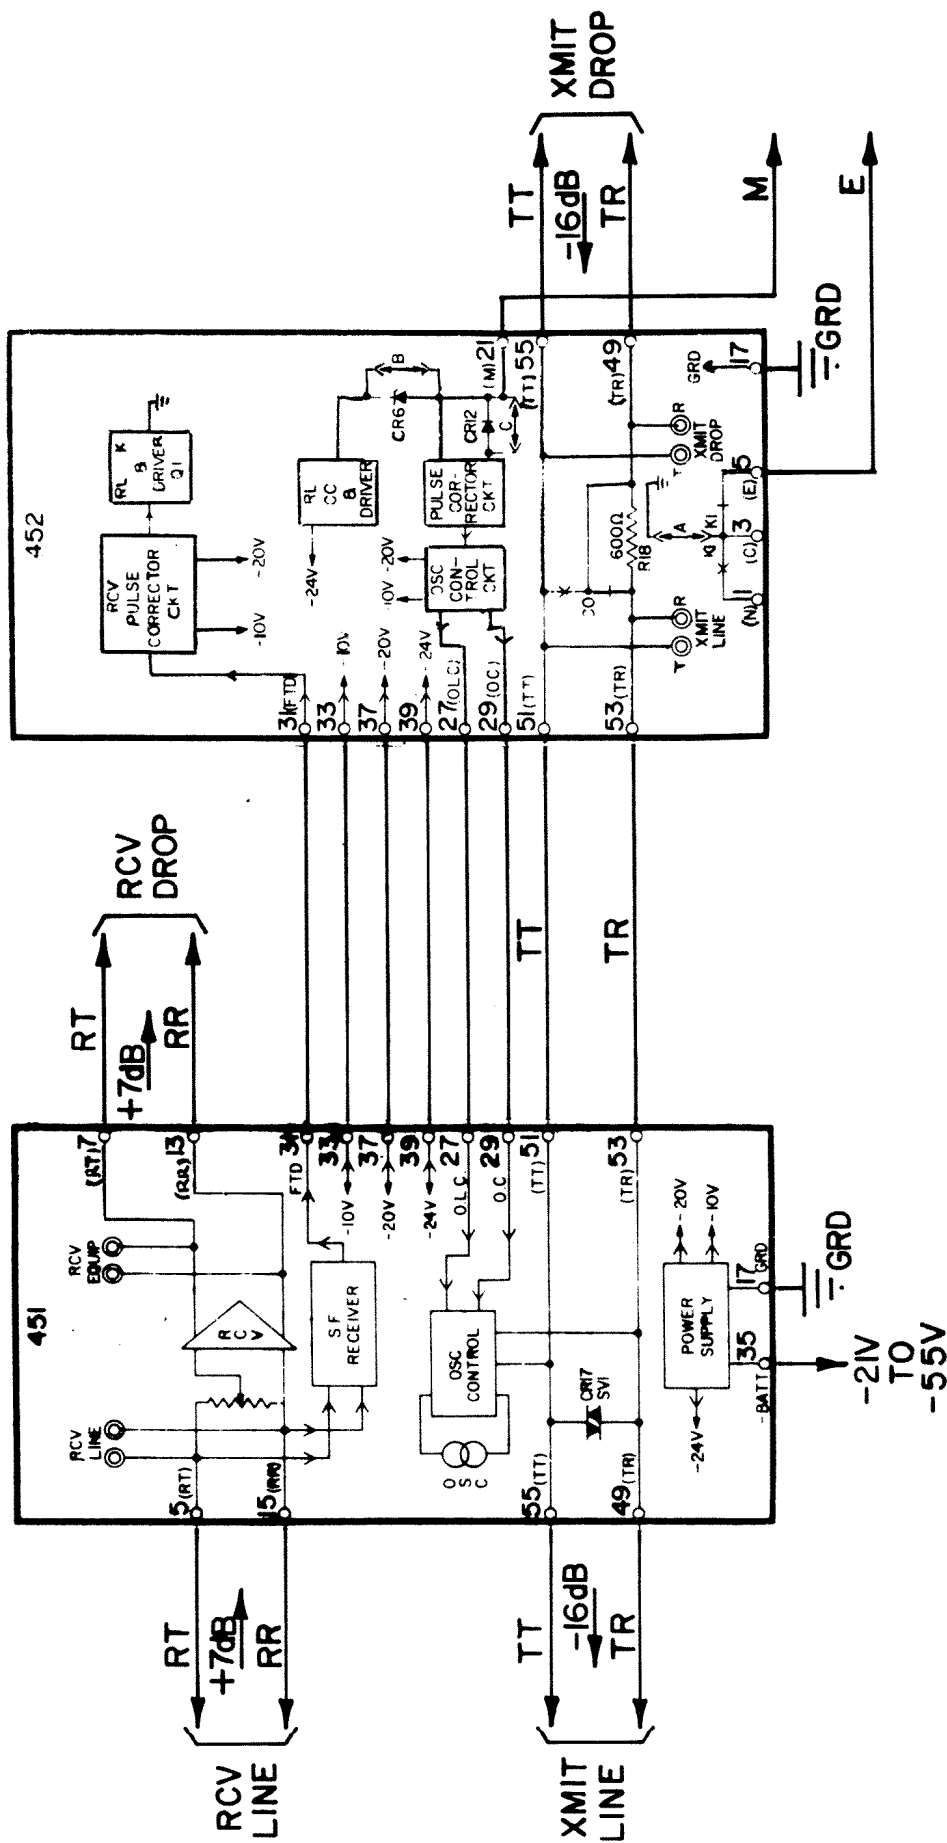

Figure 3. 452-FWA Line-Up Diagram
6.01 The alignment procedure for the 452-FWA E and M Inband Signaling System consists of injecting tone into the transmit channel to adjust the transmit levels of the associated equipment and verify the operation of the 452 cut and terminate relay. Test tone is then injected into the receive channel to align the receive levels of the associated equipment and the receive gain in the 451 Common Module. Also refer to Figure 3.
7.04 Refer to the 452-FWA Line-Up Diagram (Figure 3) and the attached schematic diagrams for the 451 Common and 452-FWA modules during the following discussion.